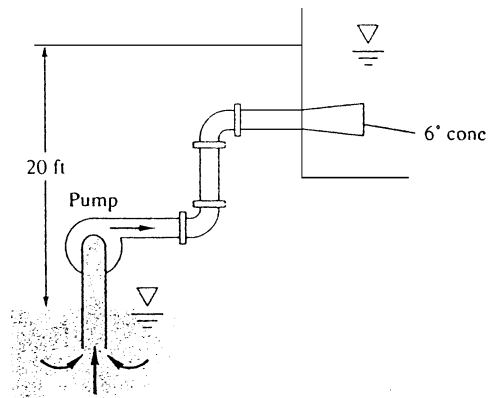

Fig. P6.102
6.102 A 70 percent efficient pump delivers water at 20°C from one reservoir to another 20 ft higher, as in Fig. P6.102. The piping system consists of 60 ft of galvanized-iron 2-in pipe, a reentrant entrance, two screwed 90° long-radius elbows, a screwed-open gate valve, and a sharp exit. What is the input power required in horsepower with and without a 6° well-designed conical expansion added to the exit? The flow rate is $0.4 \text{ ft}^3/\text{s}$.